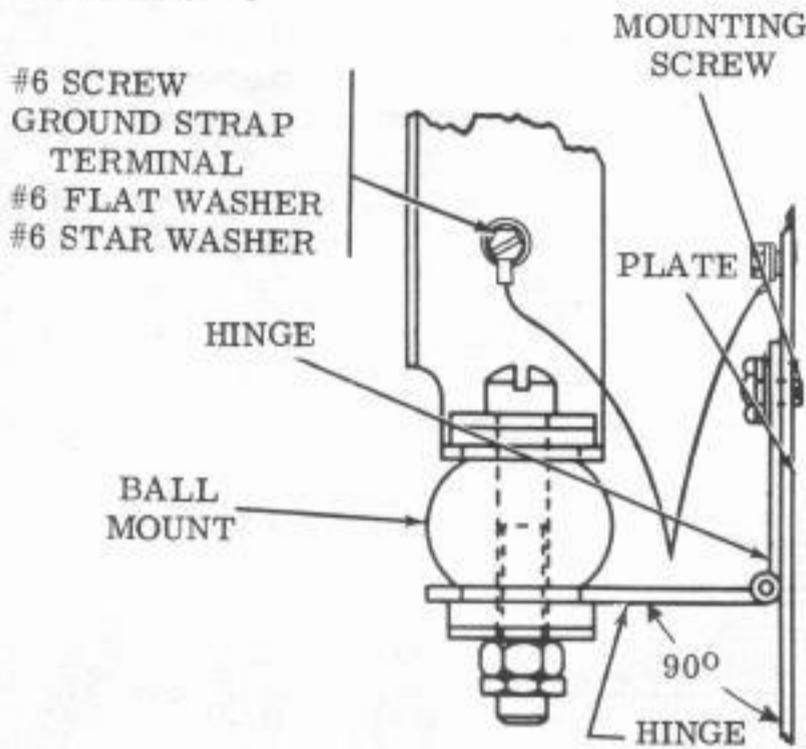

Figure 13 - Ground Strap Installation
2.59 Securely connect the two ground straps at the left end of the service unit to the cabinet mounting frame and the page printer mounting frame. See Figure 13. Friction fit ground tabs are supplied.